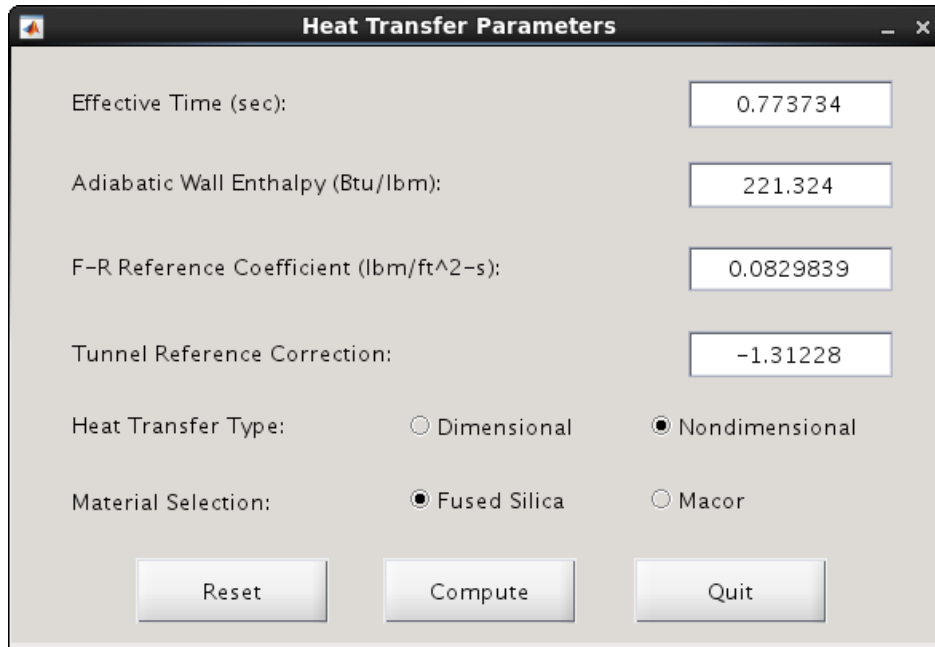

Figure 6: Compute Heat Transfer Tool.
2. The *Compute Heat Transfer* tool (see figure 6) allows the user to choose between fused silica and Macor[®] as the material of the model. The *Reset* button is included in case the user changes parameters in the text boxes, but then decides to restore the default values obtained from the flow conditions file. The user can also choose whether to calculate non-dimensional or dimensional heat transfer coefficients by selecting the corresponding toggle buttons. The *Compute* button is clicked to perform the heat transfer calculations.